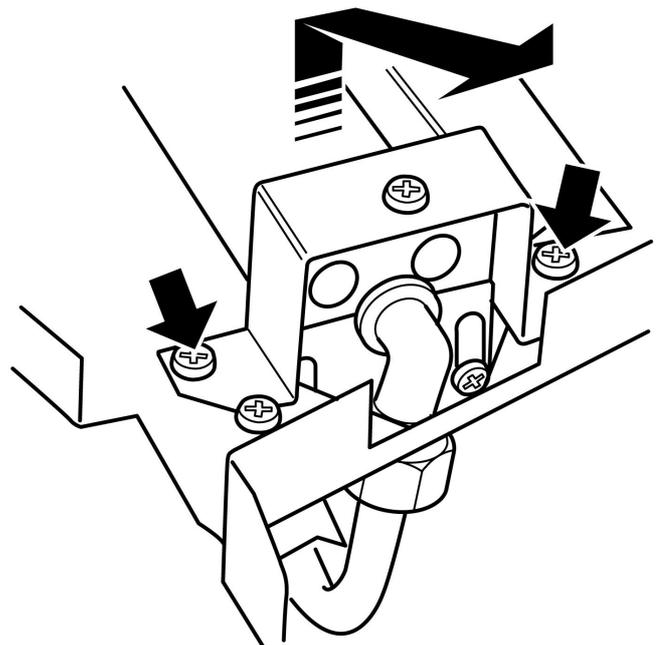

Figure 49. Removal of burner
See figure 49.
3. Remove the two screws from the burner clamping plate (See figure 49)